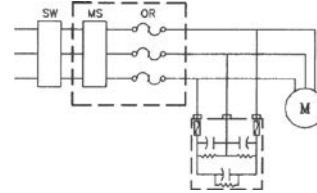
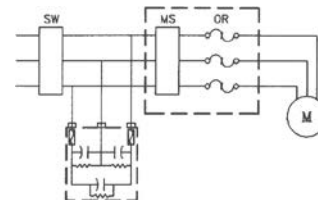

Figure 1 – For new motor installations
Figure 3
Capacitors may be connected to each motor and switched with it, as in Figures 1 and 2, in which case they are energized only when the motor is in operation, or they may be permanently connected to the line ahead of the motor starters as in Figure 3.
1. The most economical location is directly across the terminals of larger motors thereby eliminating the cost of a separate switch. The capacitor ratings may be selected directly from Table 2 or Table 3, which require knowing only the type, horsepower rating, and speed of the motor. Reference to Figure 1 or 2 indicates the recommended location for new and existing motors. These capacitor ratings normally correct the motor no-load power factor to unity which in turn generally results in a full-load power factor of 94%-96%.